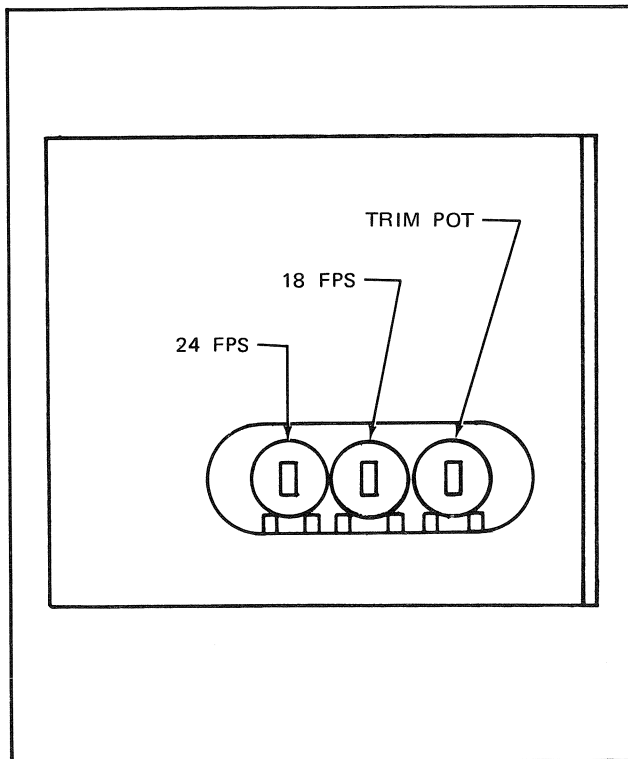

Fig. 4-14
2. Locate the access slot for the speed adjustment variable resistors. (See figure 4-14.)